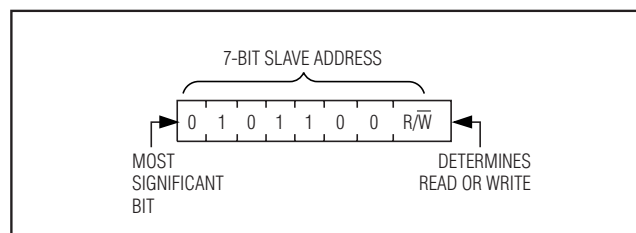

Figure 4. Slave Address and the  $R/\bar{W}$  Bit
**Slave Address and the  $R/\bar{W}$  Bit:** Each slave on the 2-wire bus responds to a slave addressing byte sent immediately following a START condition. The slave address byte contains the slave address and the  $R/\bar{W}$  bit. The slave address (see Figure 4) is the most significant 7 bits and the  $R/\bar{W}$  bit is the least significant bit.